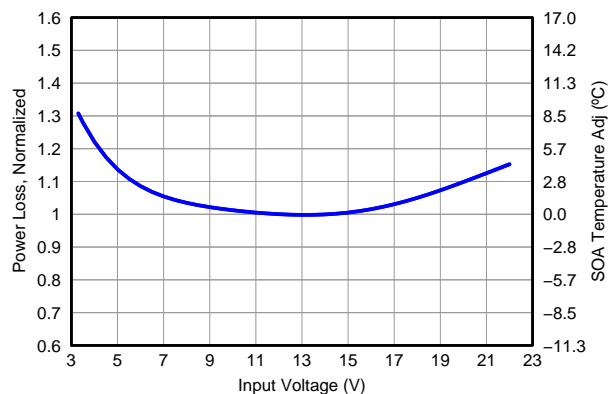

Figure 13. Normalized Power Loss vs Input Voltage
- Normalized Power Loss for input voltage  $\approx 1.05$  (Figure 13)
- SOA adjustment for input voltage  $\approx 1.4^{\circ}C$  (Figure 13)